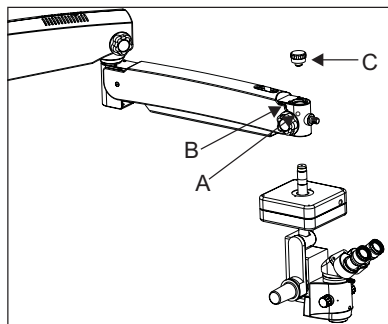

Fig. 9
7.12 Remove the caution label from the suspension arm. Unscrew safety nut (A) from the carrier and guide the shaft smoothly into the bush of suspension arm as shown in Fig. 9
Locks the stand from unwanted movement by pressing down the two brakes provided on caster wheels. To unlock press upper portion of brake. See Figure 9.